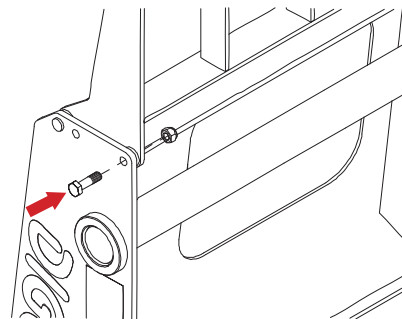

Figure 6
3. Align the holes of the frame with the holes of the safety guard and tighten bolts (Figure 6).